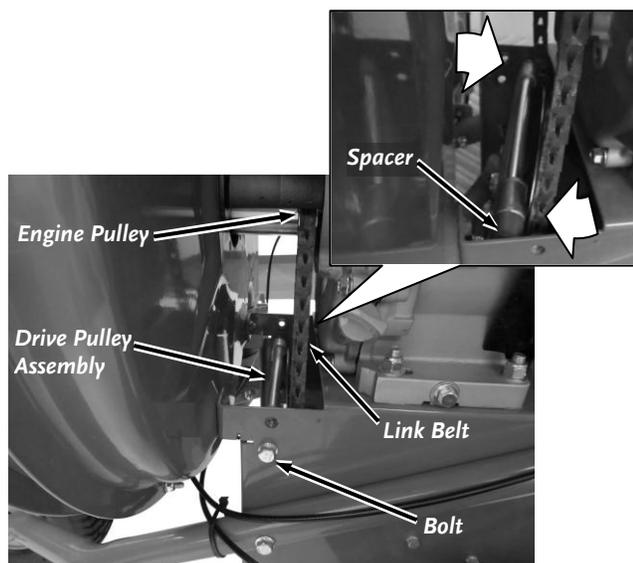

Figure 17
4. Remove the two Bolts that secure the Drive Pulley Assembly using a 13mm Wrench (**Figure 17**).
- Cut the old Belt to be replaced using Diagonal Cutters or equivalent and remove Belt from the Engine Pulley (**Figure 17**).
4. Install the Drive Pulley Assembly to the frame with the two Bolts (Ensure the Spacer is in place) (**Figure 17**).